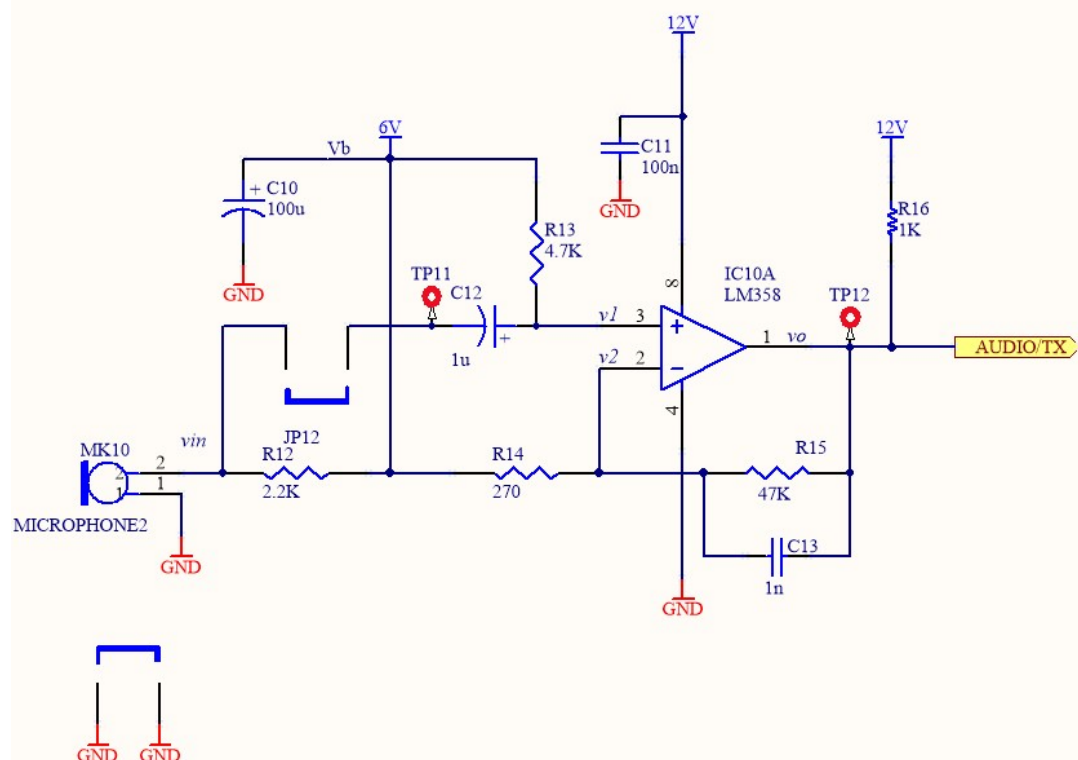

Figure 1: Schematic of microphone amplifier
1. Consider the TRC-11 microphone amplifier circuit shown in Fig. 1, making use of one of the two OPAMPs in LM358 integrated circuit. Since the OPAMP operates with a single supply voltage, the input DC voltages of the OPAMP should be shifted to a voltage somewhere between $V_{CC}=+12V$ and GND. For this purpose, we use the regulated voltage, +6V. Therefore, +6V acts like a ground, +12V acts like the positive supply, and GND acts like the negative supply of the OPAMP.